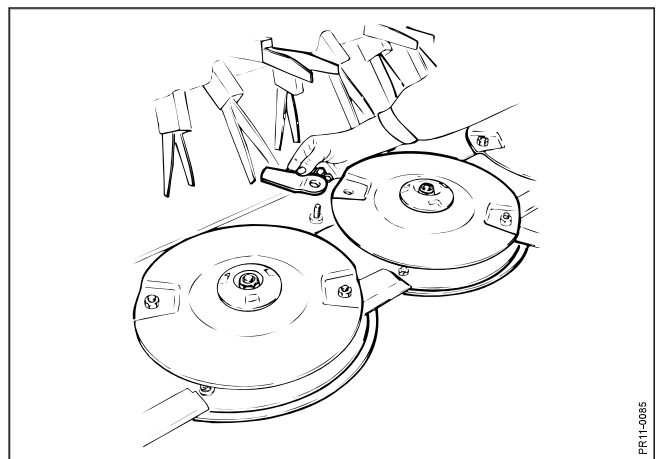

Fig. 5-9
- Fig. 5-9 To obtain a satisfactory harvesting it is important that blades and shearbar are intact and sharp. Replacement of blades is made by dismounting the blade bolt and pull it out from beneath the disc. This is easily done when the blade is in the front position so that the bolt can fall out through the hole in the stone protector. Remove the old blade and mount the new one together with the blade bolt. The blades can be used on both sides by moving the blades from one disc to another with opposite direction of rotation.